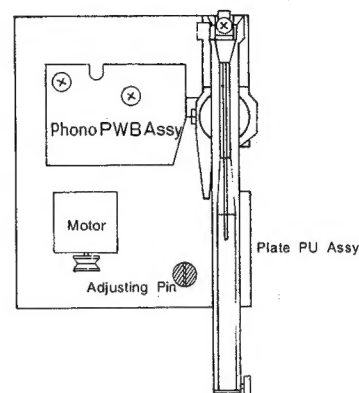

Figure 27
1. Remove the case top according to DISASSEMBLY INSTRUCTIONS (B) (page 3).
5. Turn the adjusting pin described in Fig. 27 so that the stylus set-down position will be counted between 15 and 17 points.